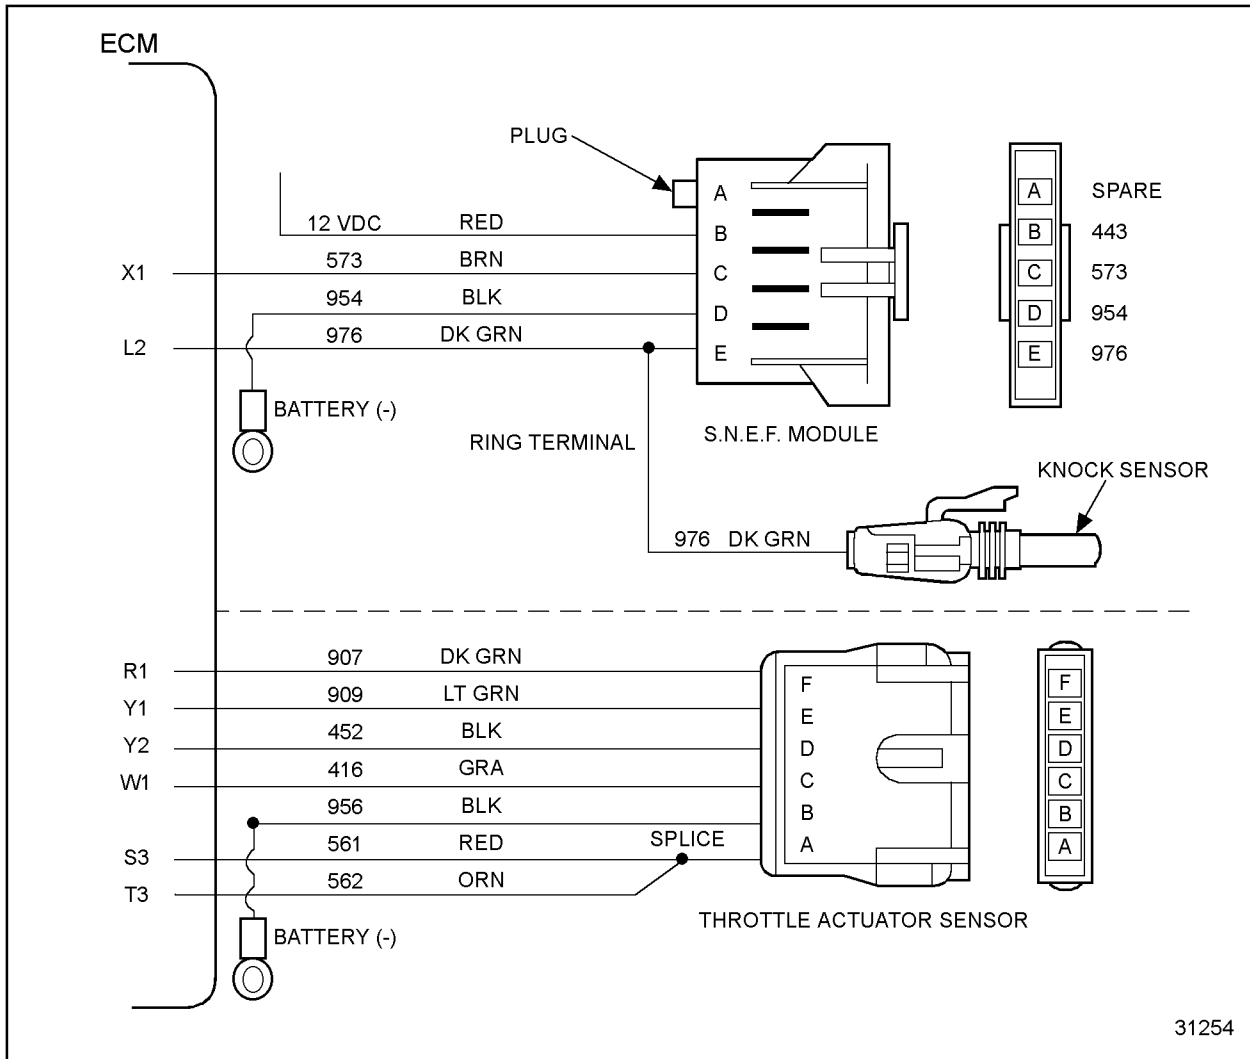

Figure 65-1 Series 50 Gas Engine Sensor Harness
1. Unplug throttle actuator sensor harness connector. See Figure 65-1.